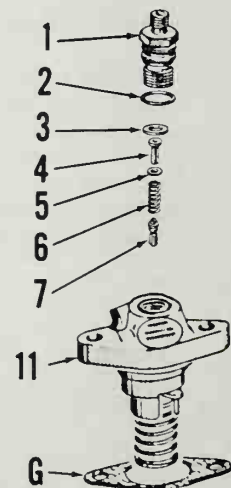
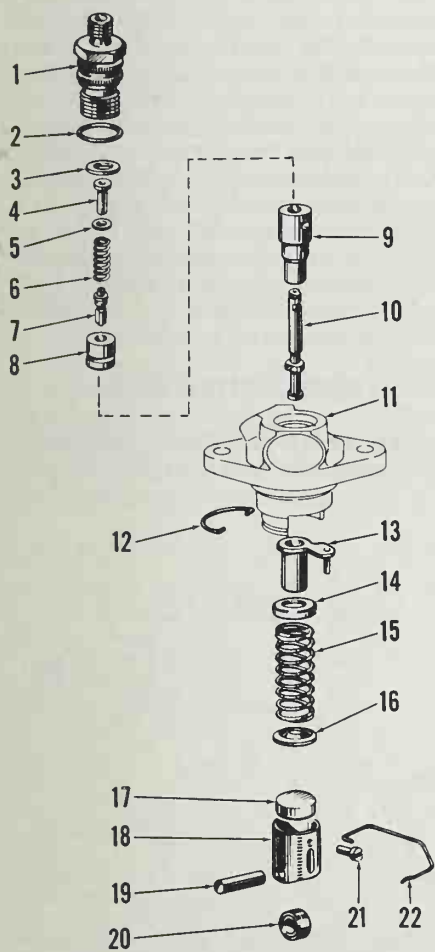

Fig. W1-3—Partial exploded view of fuel injection pump. Injection timing is adjusted using shim gaskets (G).
Fig. W1-8 - Exploded view of fuel injection pump.
Injection pump timing is adjusted using shim gaskets (G—Fig. W1-3) between pump body and mounting surface of crankcase. Refer to INJECTION PUMP section for pump removal and installation.
screw high pressure injection line from injection pump delivery valve holder (1). Unscrew delivery valve holder (1) and remove spring (6), shim (5), spring guide (4) and delivery valve (7), then screw delivery valve holder (1) back into pump. Move throttle control to full speed position. Rotate engine in normal direction (counterclockwise at pto) so piston is on compression stroke. Fuel will flow out of delivery valve holder—it may be necessary to connect a gravity-flow fuel tank to injection pump if engine is not so equipped. Stop engine rotation at moment fuel ceases to flow. Timing mark (R—Fig. W1-4) should be within 3 mm of injection timing mark (N) on crankcase. To advance injection timing, remove shim gaskets (G—Fig. W1-3); install shim gaskets to retard injection timing. Reinstall removed pump parts after checking timing.
and immediately cap all openings. Refer to GOVERNOR section and detach side control cover. Unscrew pump retaining screws and remove fuel injection pump. Do not lose shim gaskets (G—Fig. W1-3). Pump components (17 through 22—Fig. W1-8) will remain in crankcase. If tappet assembly must be removed, reach inside side cover opening and place a magnet against guide pin (21). Detach clip (22) and use magnet to remove guide pin (21). Slide tappet (18) out of crankcase.
Refer to Fig. W1-8 for an exploded view of fuel injection pump. The injection pump should be tested and overhauled by a shop qualified in diesel fuel injection pump repair.